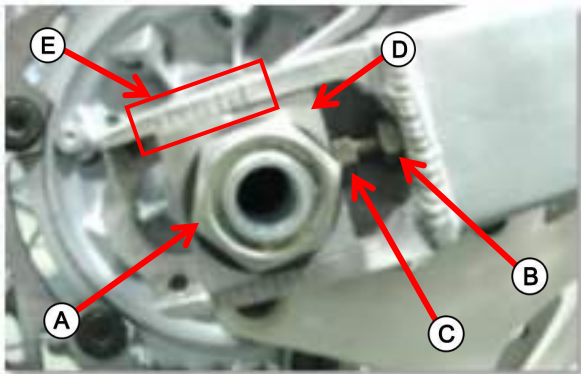

Fig. 1
4. Align the marks **1** in Fig. 1 of the adjusting plate **D** with the same reference marks **E** on both sides of the swing-arm.